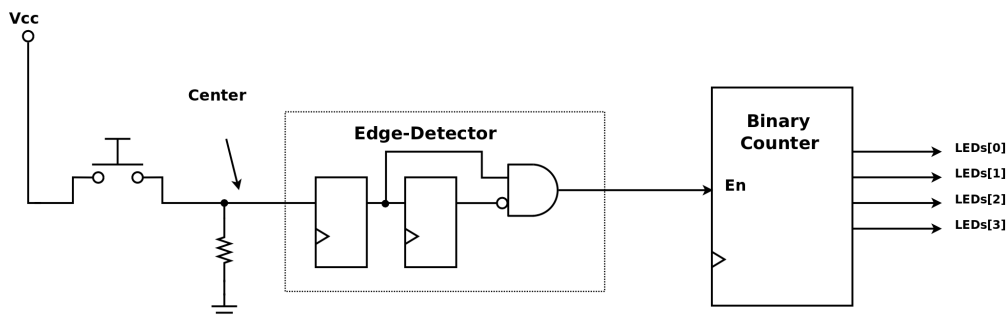

Figure 10: Example Synchronous Circuit without Debounce Circuitry
- (a) Figure 10 provides a simple synchronous circuit that will be sensitive to switch bounce. This circuit contains a binary counter with an enable controlled by the output of an edge-detector. The edge-detection circuitry serves two purposes in this circuit. First of all, it synchronizes the asynchronous input from the push-button, *Center*. Second of all, it detects when that signal transitions from LOW to HIGH. Thus, it detects a positive-edge. The output of the edge-detector is a pulse that immediately follows the rising-edge of *Center* and is one clock cycle wide. The designer intended to create a circuit that will increment a counter by one every time the “Center” button on the Spartan 3E board is pressed. Let us see if that is what actually happens.
- (b) The circuit in Figure 10 has been implemented for you in “noDebounce.v”. Copy this file along with the associated UCF, “noDebounce.ucf”, from the course directory to your lab9 directory.
- (b) Study the circuit in Figure 4. Now take a moment to examine the uncommented Verilog code in “withDebounce.v”. You should find that this source file contains the circuit in Figure 10 and the circuit in Figure 4 combined into one. Please add comments to the source code and include it in your lab write-up.